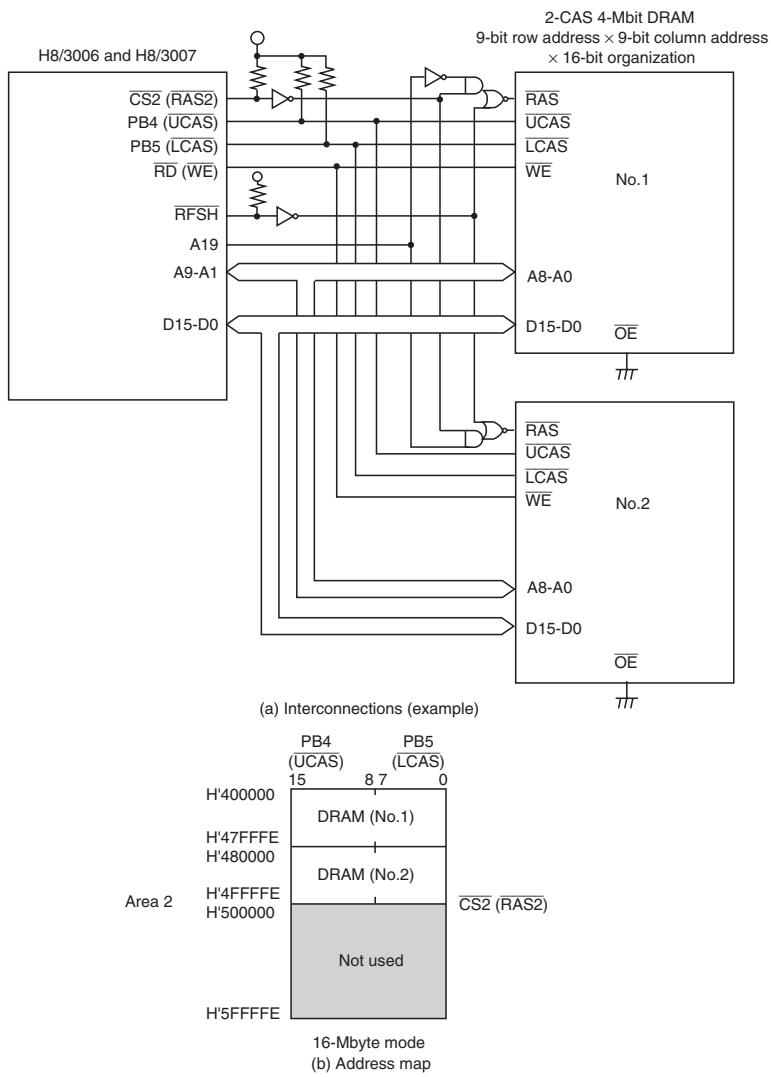

Figure 6.31 Interconnections and Address Map for 2-CAS 4-Mbit DRAMs with × 16-Bit Organization
- Figure 6.31 shows typical interconnections when using two 4-Mbit DRAMs, and the corresponding address map. The DRAMs used in this example are of the 9-bit row address × 9-bit column address type. In this example, upper address decoding allows multiple DRAMs to be connected to a single area. The RFSH pin is used in this case, since both DRAMs must be refreshed simultaneously. However, note that RAS down mode cannot be used in this interconnection example.